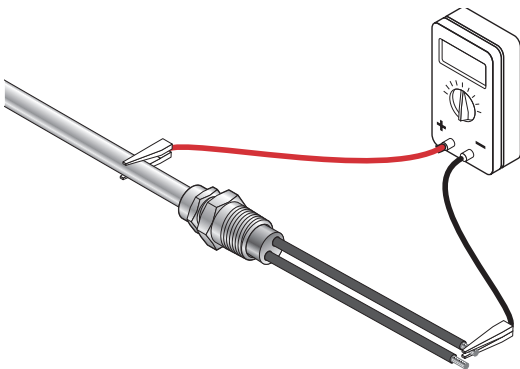

Figure 40: Check insulation resistance
Check the insulation resistance (IR) again (Figure 40). A value greater than 20 M Ω should be attained. If the IR is lower, remove the moisture from the cable by following the **drying out** procedure in Appendix D and then repeat IR test.